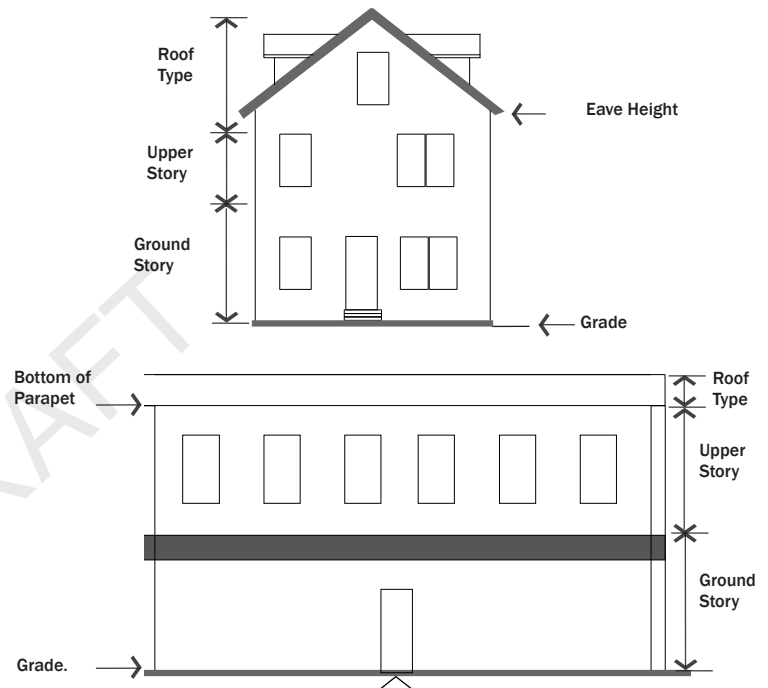

Figure 10-21-4B (3). Measuring Height
- (c) Ground Story and Upper Story, Minimum and Maximum Height. (Refer to Figure 10-21-4B (3). Measuring Height). Each frontage type includes a permitted range of height in feet for each story. Additional information is as follows:
3. Uses. The following explains the line item requirements for each Building Type Table within the third section entitled "Uses." Refer to 10-21-3 for uses permitted within each Zoning District. The requirements in this section of the Building Type Tables may limit those uses within a specific Building Type. Table 10-21-4B (3), right, illustrates an example of the Uses table from a typical Building Type.
4. Street Facade Requirements. The following explains the line item requirements for each Building Type Table within the fourth section entitled "Street Facade Requirements." These requirements apply only to facades facing a public or private street right-of-way. The rear or interior side yard facades are not required to meet these standards unless otherwise stated. Table 10-21-4B (4), right, illustrates an example of a Street Facade Requirements Table from a typical Building Type.